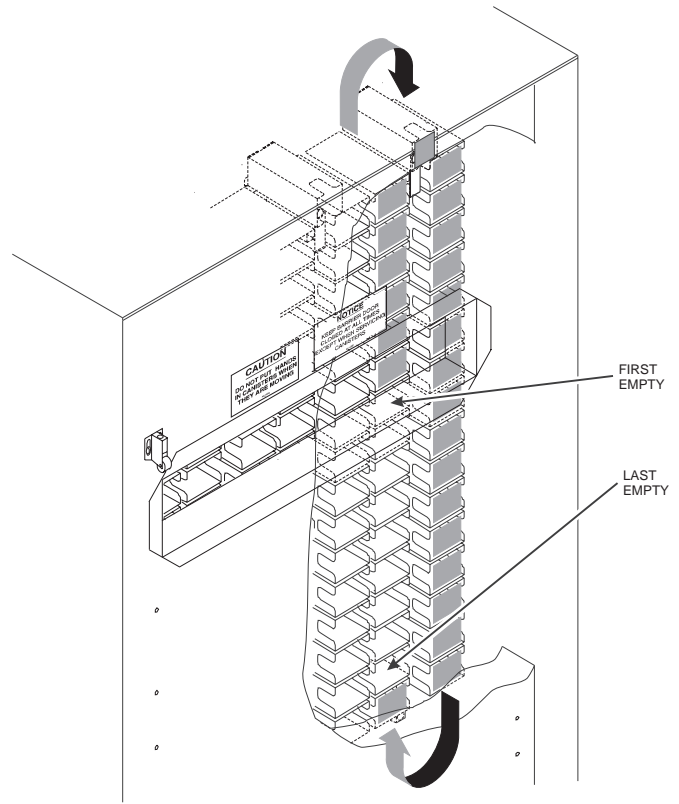

Figure 3
4. In our example, you have finished loading your products and you still have 9 empty canisters. Press **RUN 4** once so that the FIRST EMPTY canister is in the loading window (figure 3).